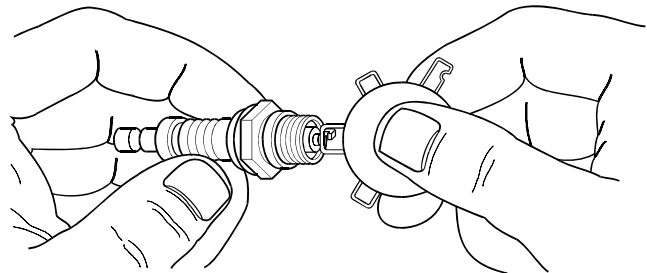

Figure 4-4: Spark Plug Gap
5. Set the new spark plug's gap to 0.70-0.80 mm (0.028 – 0.031 in). Install the correctly gapped spark plug into the cylinder head and tighten enough to ensure the gasket compresses at (18.0 to 21.6 Pound/Feet) (Figure 4-4).
6. Reconnect the spark plug wire and replace the front top cover and four (4) fasteners.